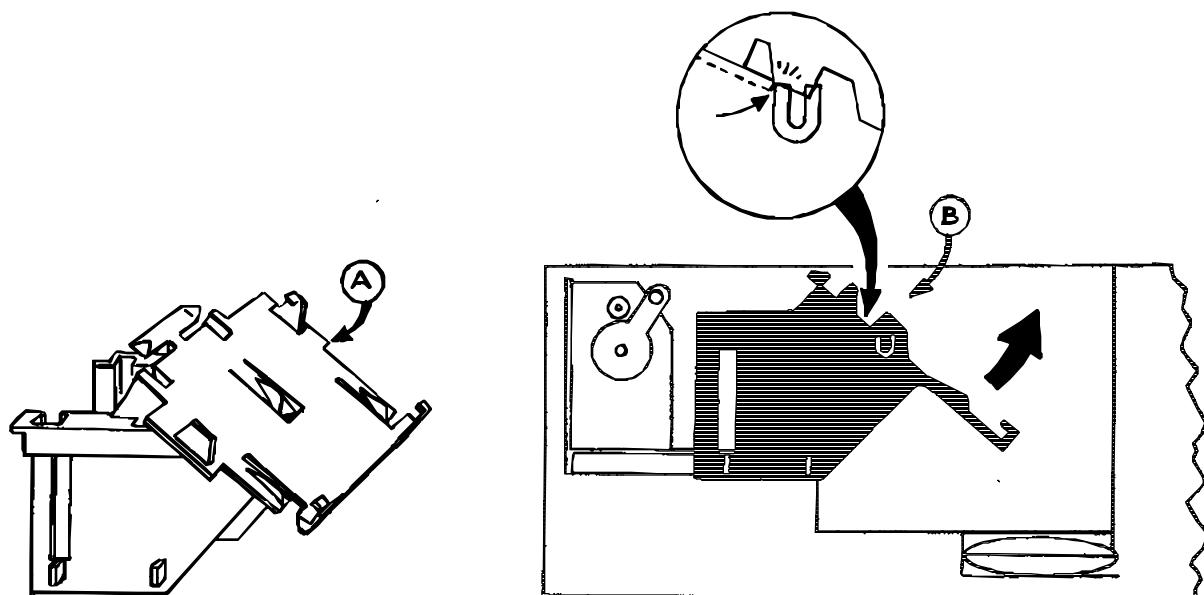

Figure 4-24 Sliding Carrier
- 16.3 Slide Carrier to right (toward base of Camera) and lift slightly so that projecting tab "A"on Carrier slides past projection "B" on Base Block. (Fig. 4-24)